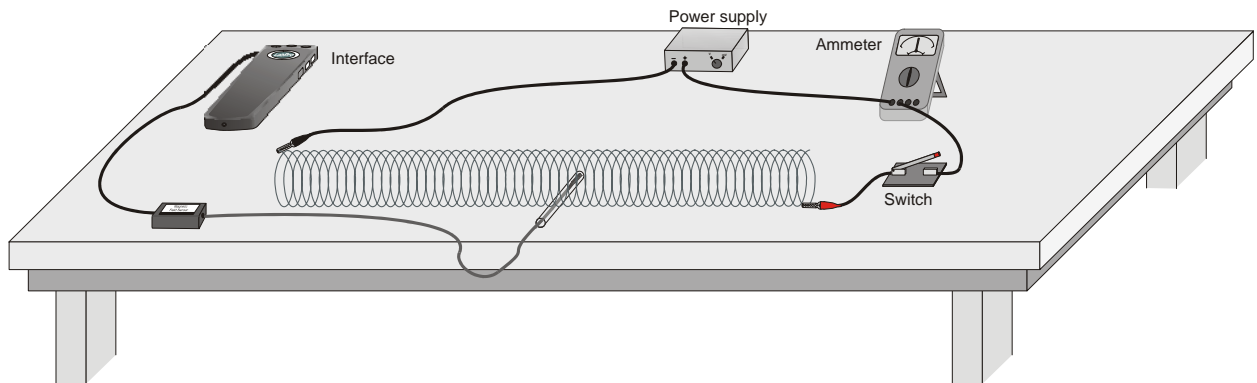

Figure 1
3. Set up the circuit and equipment as shown in Figure 1. Wires with clips on the end should be used to connect to the Slinky. If your power supply has an accurate internal ammeter you do not need an additional external ammeter.
For the second part of the experiment, you will determine the relationship between the magnetic field in the center of a coil and the number of turns of wire per meter of the solenoid. You will keep the current constant. Leave the Slinky set up as shown in Figure 1 (slinky about 1.00m in length). The sensor will be oriented as it was before, so that it measures the field down the middle of the solenoid. You will be changing the length of the Slinky from 0.5 to 2.0 m to change the number of turns per meter.